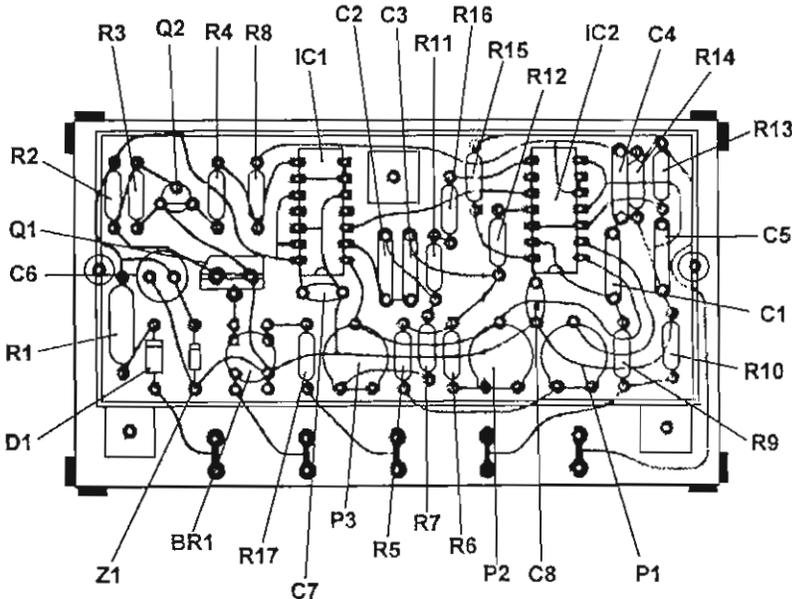

Figure 3-2. Schematic diagram.
- a. The schematic diagram and an illustration of the PCB control circuit are provided in figures 3-2 and 3-3 to assist you in understanding the operation of the control circuit.